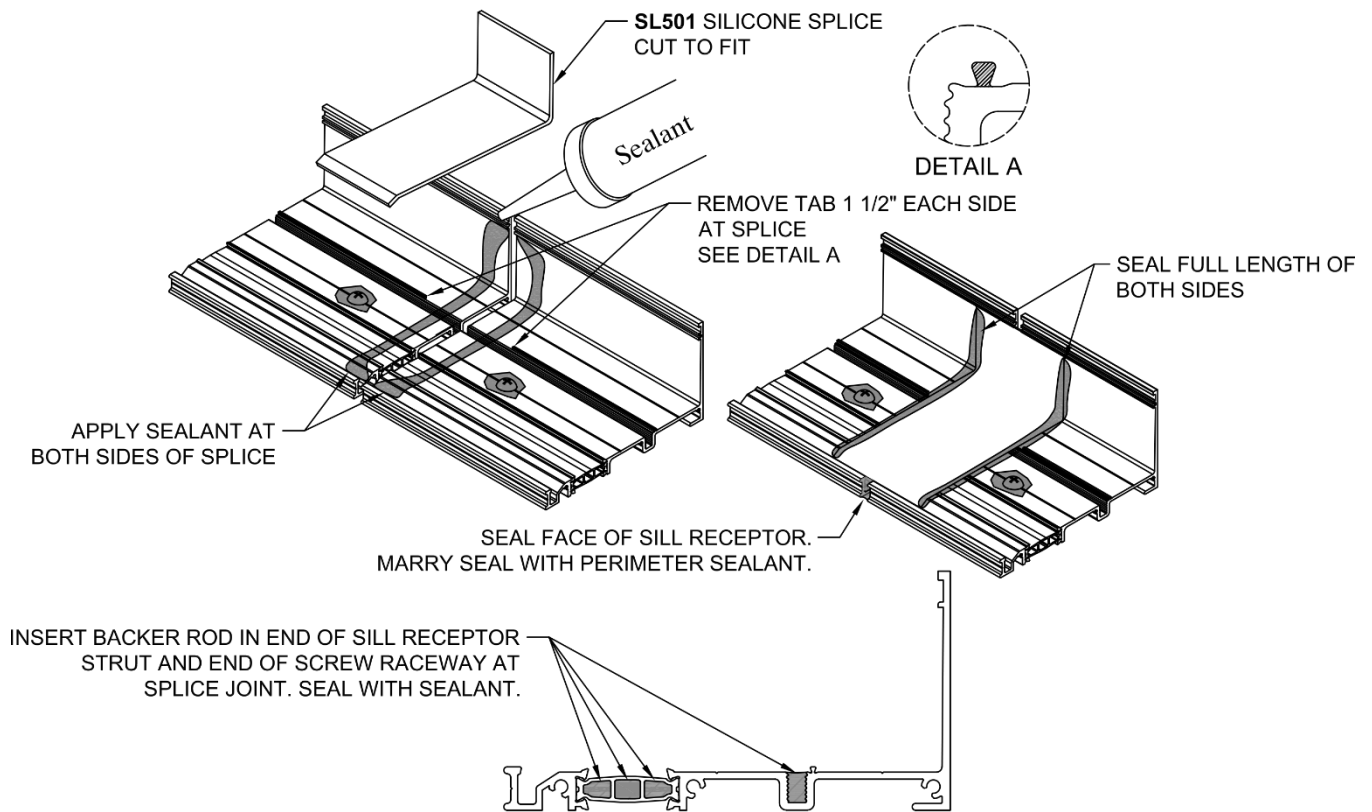

Figure 63: Sill Receptor Splice Installation
- 17.5 At splice locations, remove 1-1/2" of the tab on each side of the splice at the Sill Receptor's spline channel. Reference Detail A in *Figure 63*.
- 17.6 Insert Backer Rod and Sealant into the end of each Sill Receptor's strut and screw raceway, as shown in *Figure 63*.
- 17.11 Insert Backer Rod and Sealant into each end of the Sill Receptor strut and screw raceway, as shown in the section cut of Figure 63.